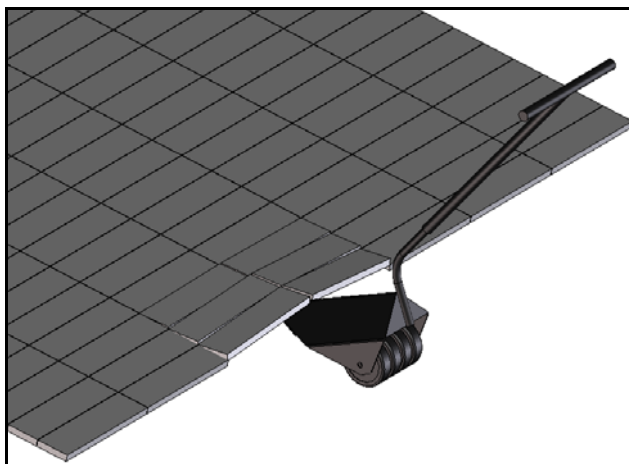

Figure 7
2. After a few tiles are detached, place the point of the Detach Tool at the edge of the unlocked tiles and push it forward as shown in Figure 7.